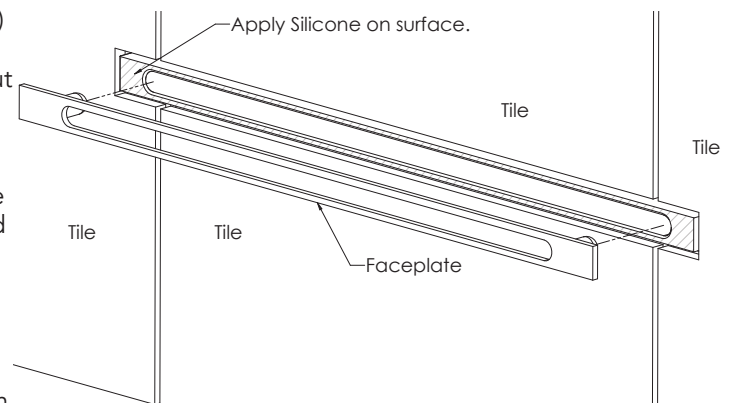

Figure 5
STEP 1. The steam head pre-installation is now complete. The wall surfacing materials (cement board, tiles, marble, etc.) can be installed. Leave a cut out in the surfacing materials around the front of Linear Steam Head as shown. Make the cut out as tight around the front of Linear Steam Head as possible. (see Fig. 5)
STEP 3. Apply silicone (supplied) to the front of Linear Steam Head. (see Fig. 5)
STEP 4. Securely press Faceplate into the opening of Linear Steam Head. (see Fig. 5)
Step 5. Apply silicone (supplied) in gap as shown in Fig 5, between the steam head and the tile as required to create a moisture seal. Failure to create a moisture seal may result in a leak within the wall cavity and cause problems associated with leaks, moisture and property damage from leaks.